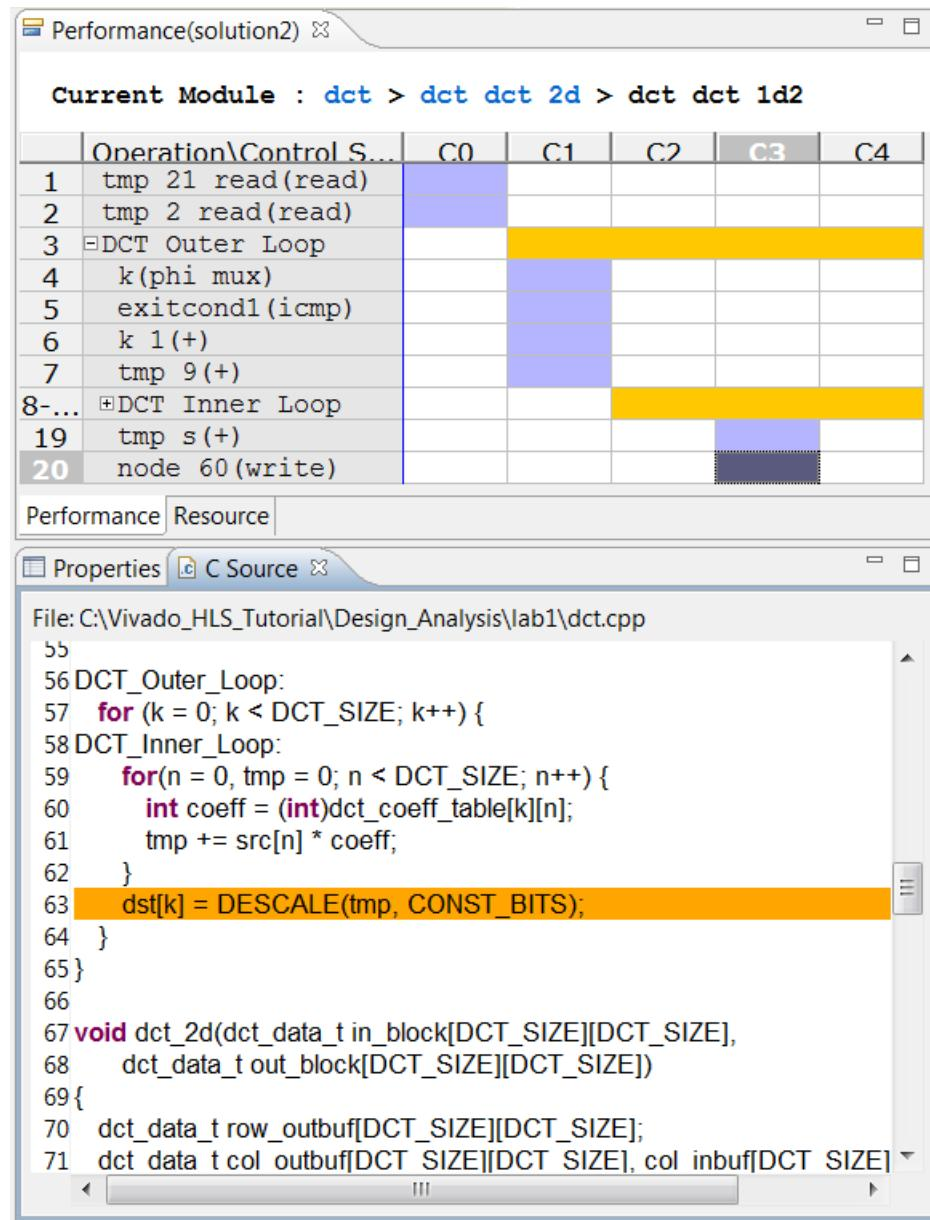

Figure 6-19: DCT Solution2 dct_1d Performance View
- In the Performance view, click loops `DCT_Outer_Loop` and `DCT_Inner_Loop` to view the loop hierarchy (Figure 6-19).
Figure 6-19 shows that this loop was not flattened because additional operations outside of `DCT_Inner_Loop`, at the level of `DCT_Outer_Loop`, prevented loop flattening. One of the operations that prevented loop flattening is highlighted in Figure 6-19, below.